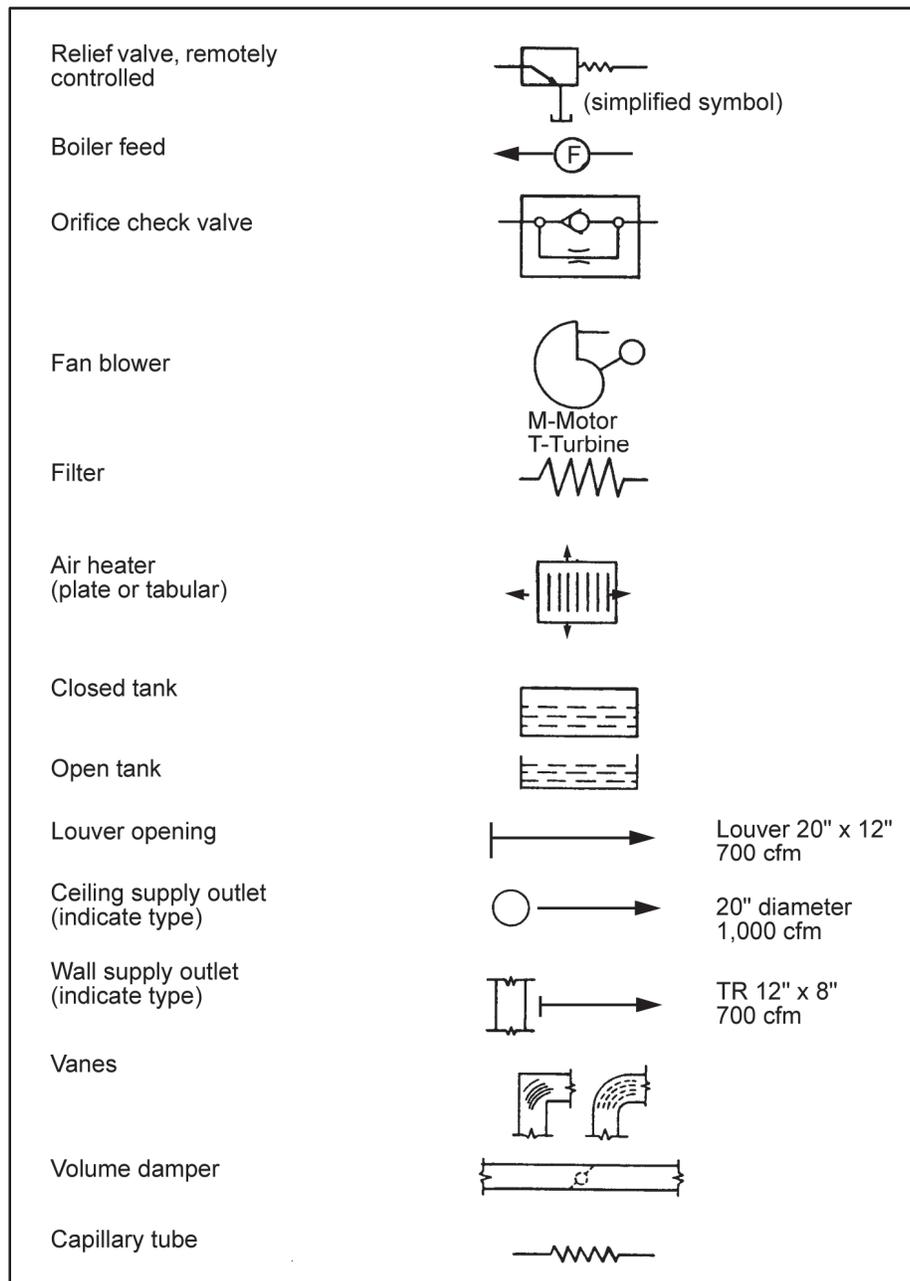

Figure B-10. Heating fittings
- Heating Fittings (figure B-10).